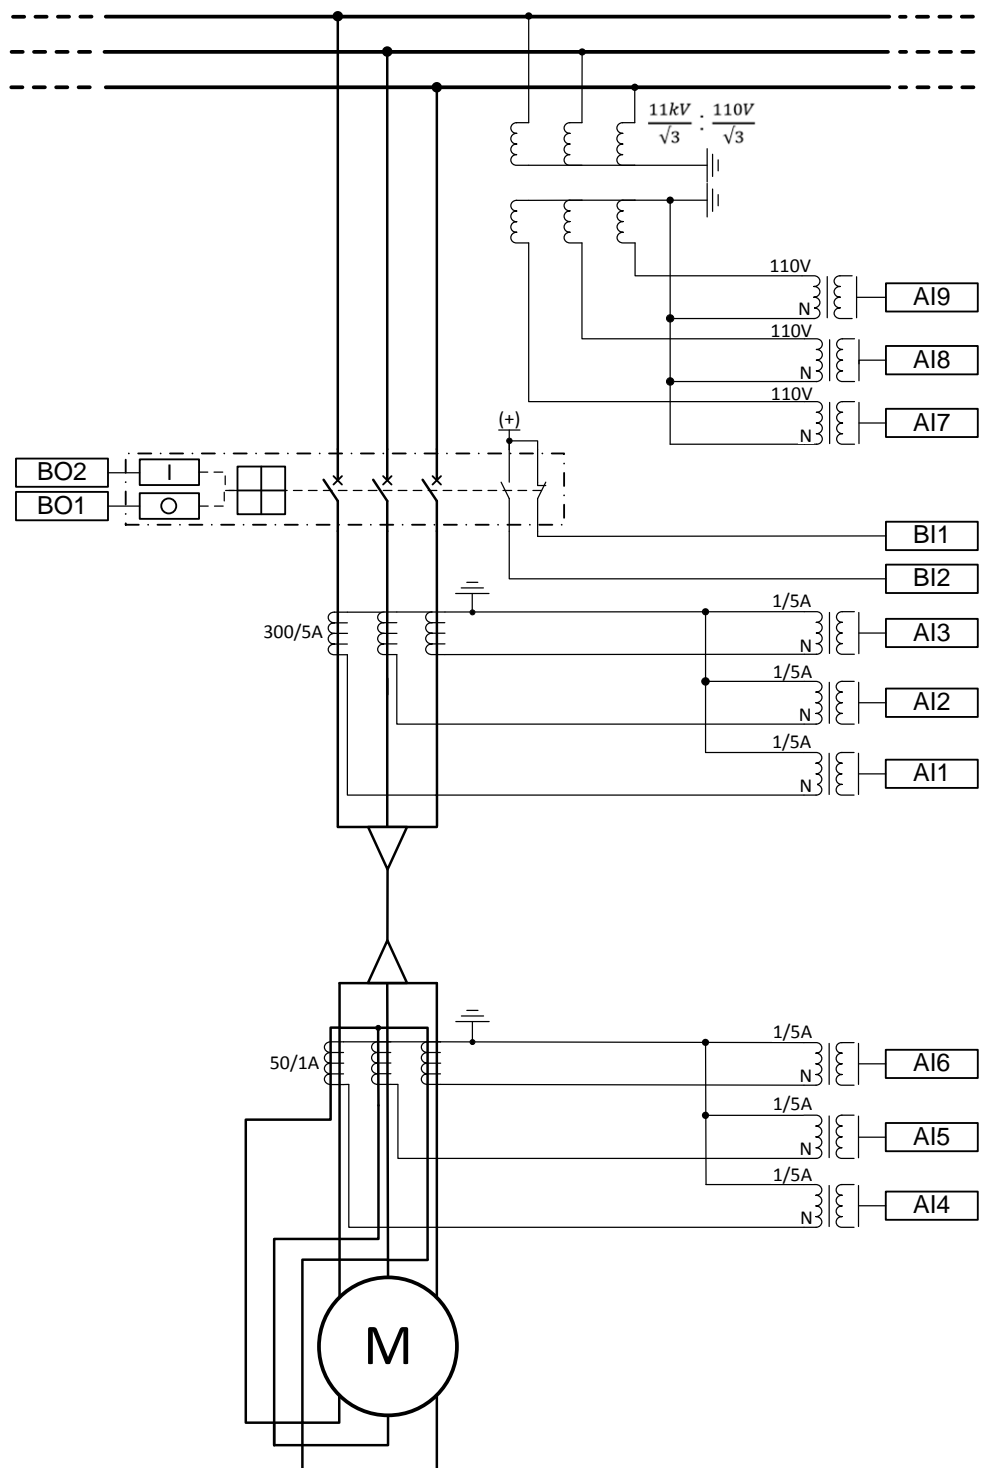

Figure 106: Relay interfaces and CT/VT connections for the example case
Figure 106 presents the connection details of the relay's analog inputs (AI), binary inputs (BI) and binary outputs (BO).